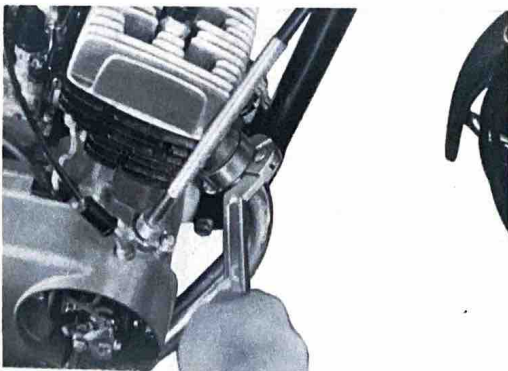

Fig. 4-1-2
2. Remove the mufflers and exhaust pipes. (Fig. 4-1-2)